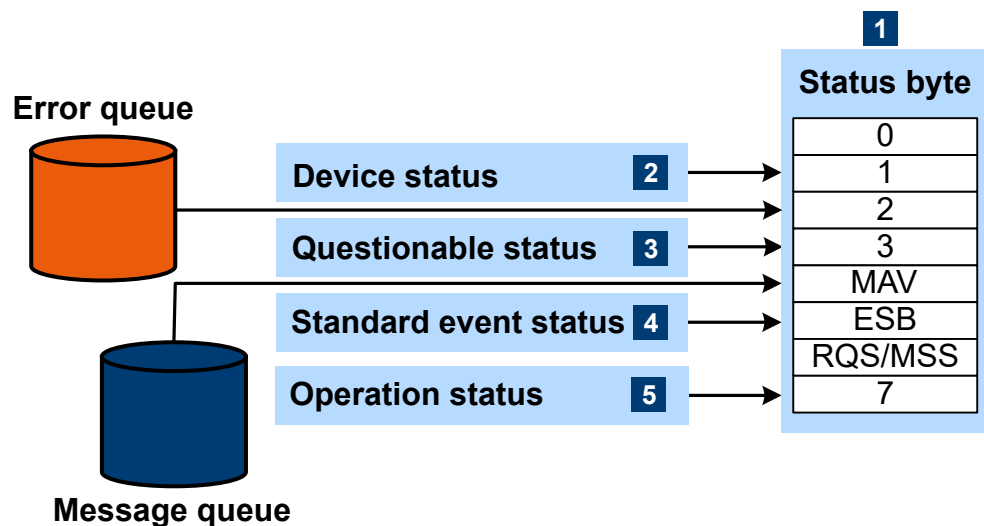

Figure 11-1: Status registers overview
Fig.11-1 shows the hierarchical structure of information in the status registers.
- See Figure 11-1.